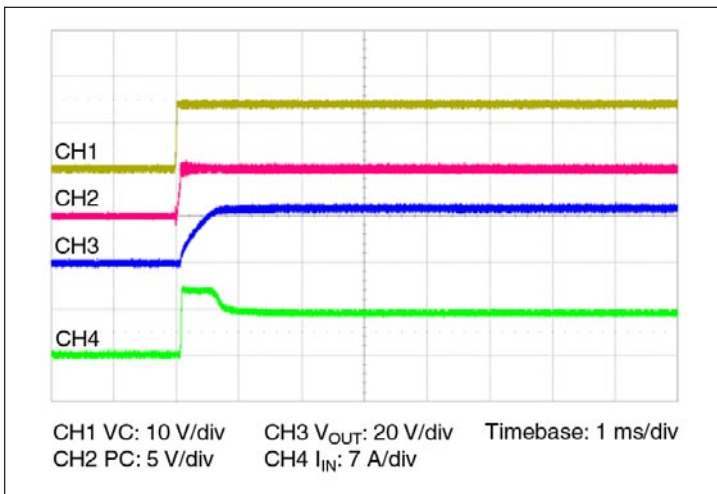

Figure 11 — Start up from application of VC;
- Stand-alone operation (VC applied after V_{IN}): In this case the VTM output will begin to rise upon the application of the VC voltage (See Figure 11). The Adaptive Soft Start Circuit (See Section 11) may vary the output rate of rise in order to limit the inrush current to its maximum level. When starting into high capacitance, or a short, the output current will be limited for a maximum of 1200 μ sec. After this period, the Adaptive Soft Start Circuit will time out and the VTM module may shut down. No restart will be attempted until VC is re-applied or PC is toggled. The maximum output capacitance is limited to 375 μ F in this mode of operation to ensure a successful start.